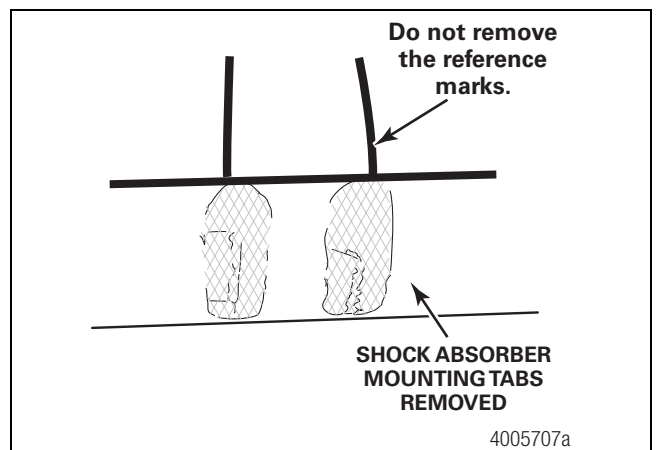

Figure 5
19. Grind off the remaining weld. Ensure that you do not grind flush to the axle tube. Figure 5.